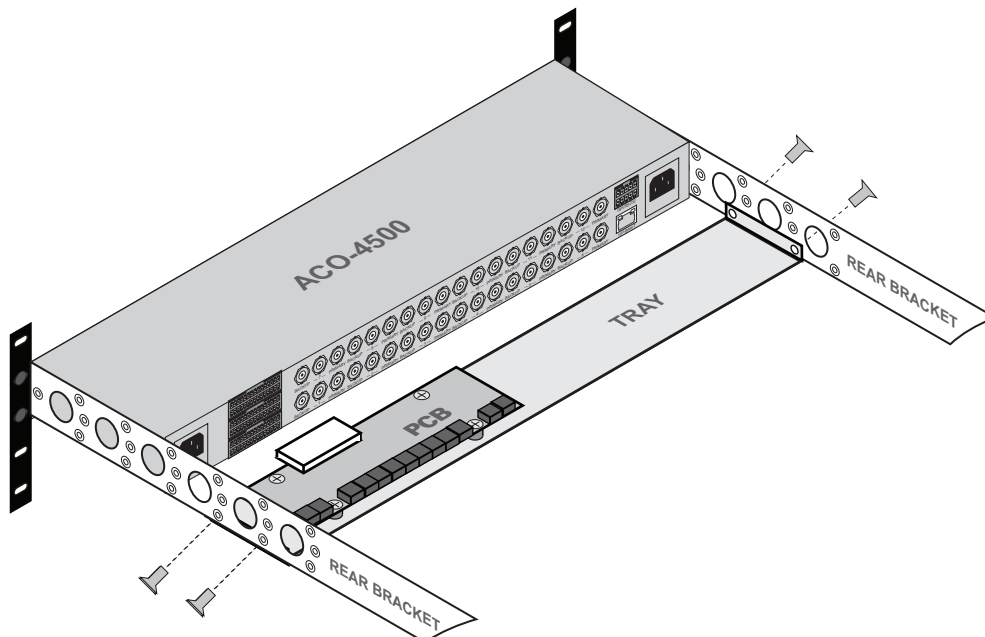

Figure 7 Installing the Breakout PCB and Tray to the Rear Brackets.
1. Position the Breakout PCB and Tray behind the ACO-4500 in the rack frame (**Figure 7**) while ensuring to:
2. Use the 4 provided M3 5mm screws to affix the Breakout PCB and Tray to the Rear Brackets of the ACO-4500. Refer to **Figure 7**.